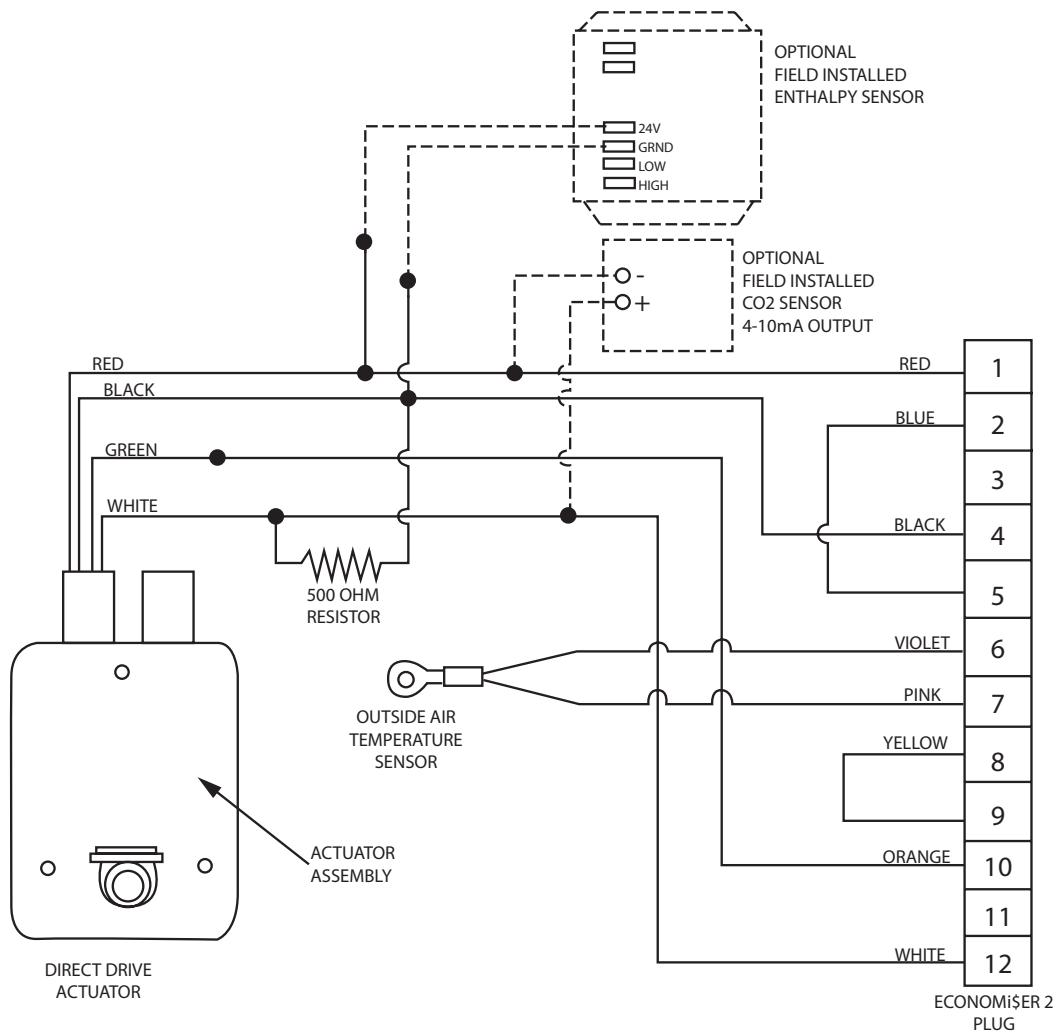

Fig. 8 - EconoMi\$er2 Wiring
11. Remove and save the 12-pin jumper plug from the unit wiring harness (located in the upper left corner of the unit). Insert the EconoMi\$er2 plug into the unit wiring harness. Refer to Fig. 8 for wiring diagram.